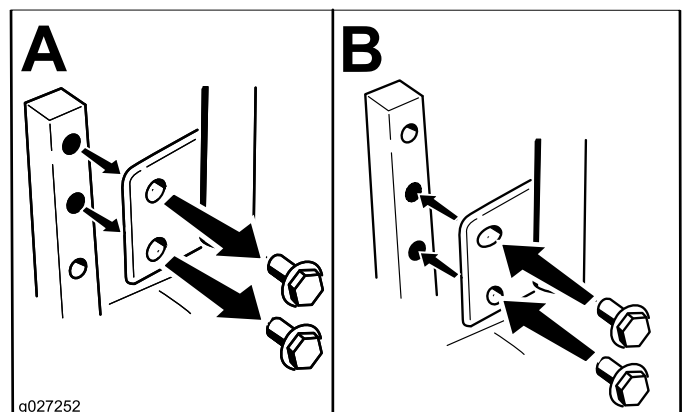

Figure 20
You can adjust the motion-control levers higher or lower for maximum comfort (Figure 20).
2. Loosen the lower bolt just enough to pivot the control lever forward or rearward (Figure 20).